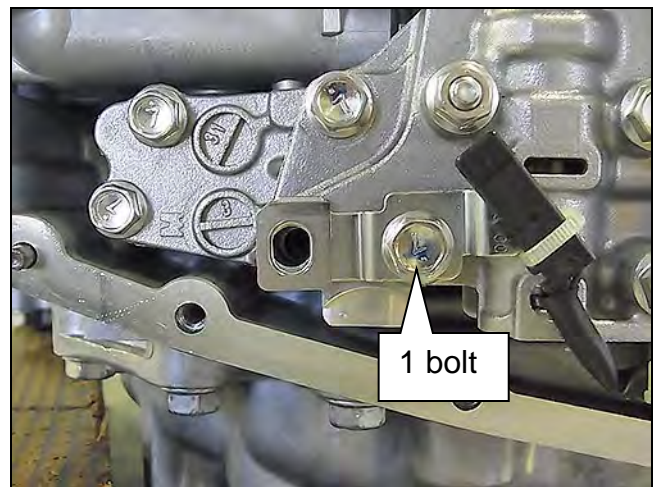

Figure 23
6. Install the CVT fluid temperature sensor bracket to the valve body with one (1) bolt (Figure 23).
**NOTE:** Leave one (1) bolt hole blank as it will be used to secure the oil strainer at a later step.